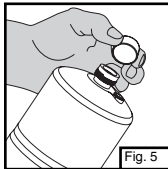

Fig. 5
- Remove protective cap from top of propane cylinder. Save cap for use in storing. (Fig. 5)